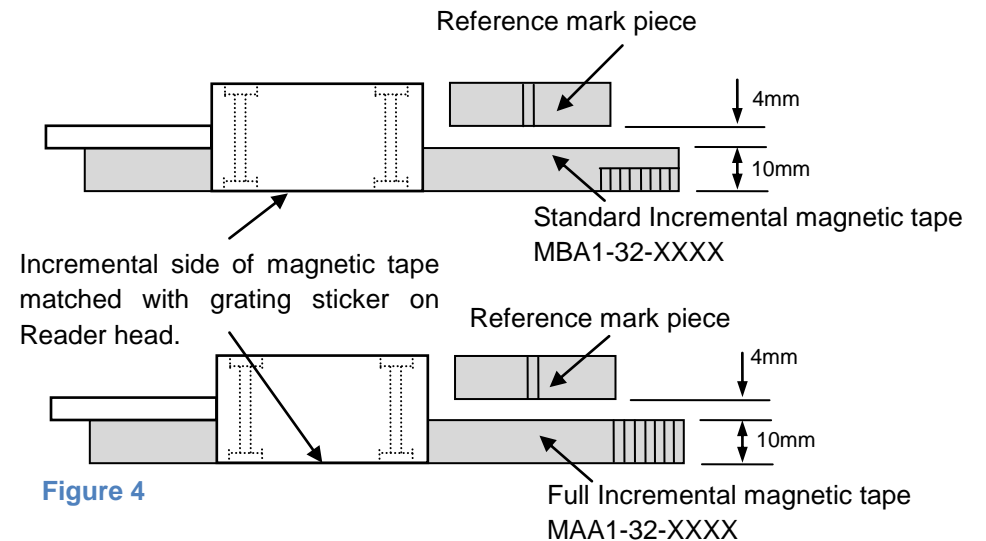

Figure 4
- ☞ Make sure the incremental side of magnetic tape matches with the grating sticker on the reader head. The reference mark piece which is supplied with reader head to select the reference position should be matched with other side of the reader head. Refer Figure 4.